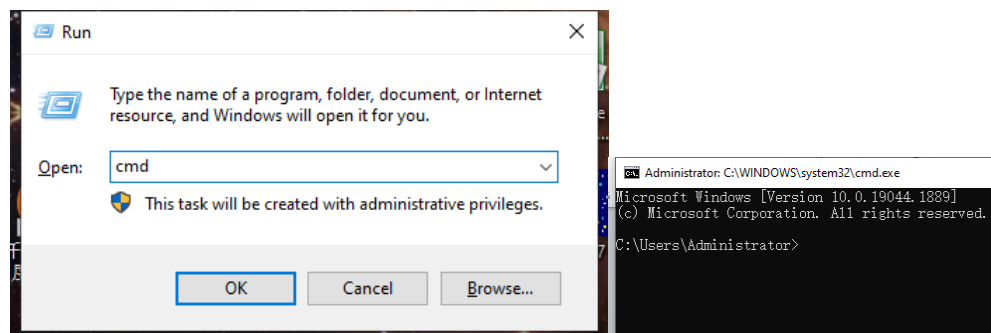

Fig. 1-2 Open terminal/cmd and navigate to the Brama folder.
- 1.1.3 Open terminal/cmd and navigate to the Brama folder (Fig. 1-2).